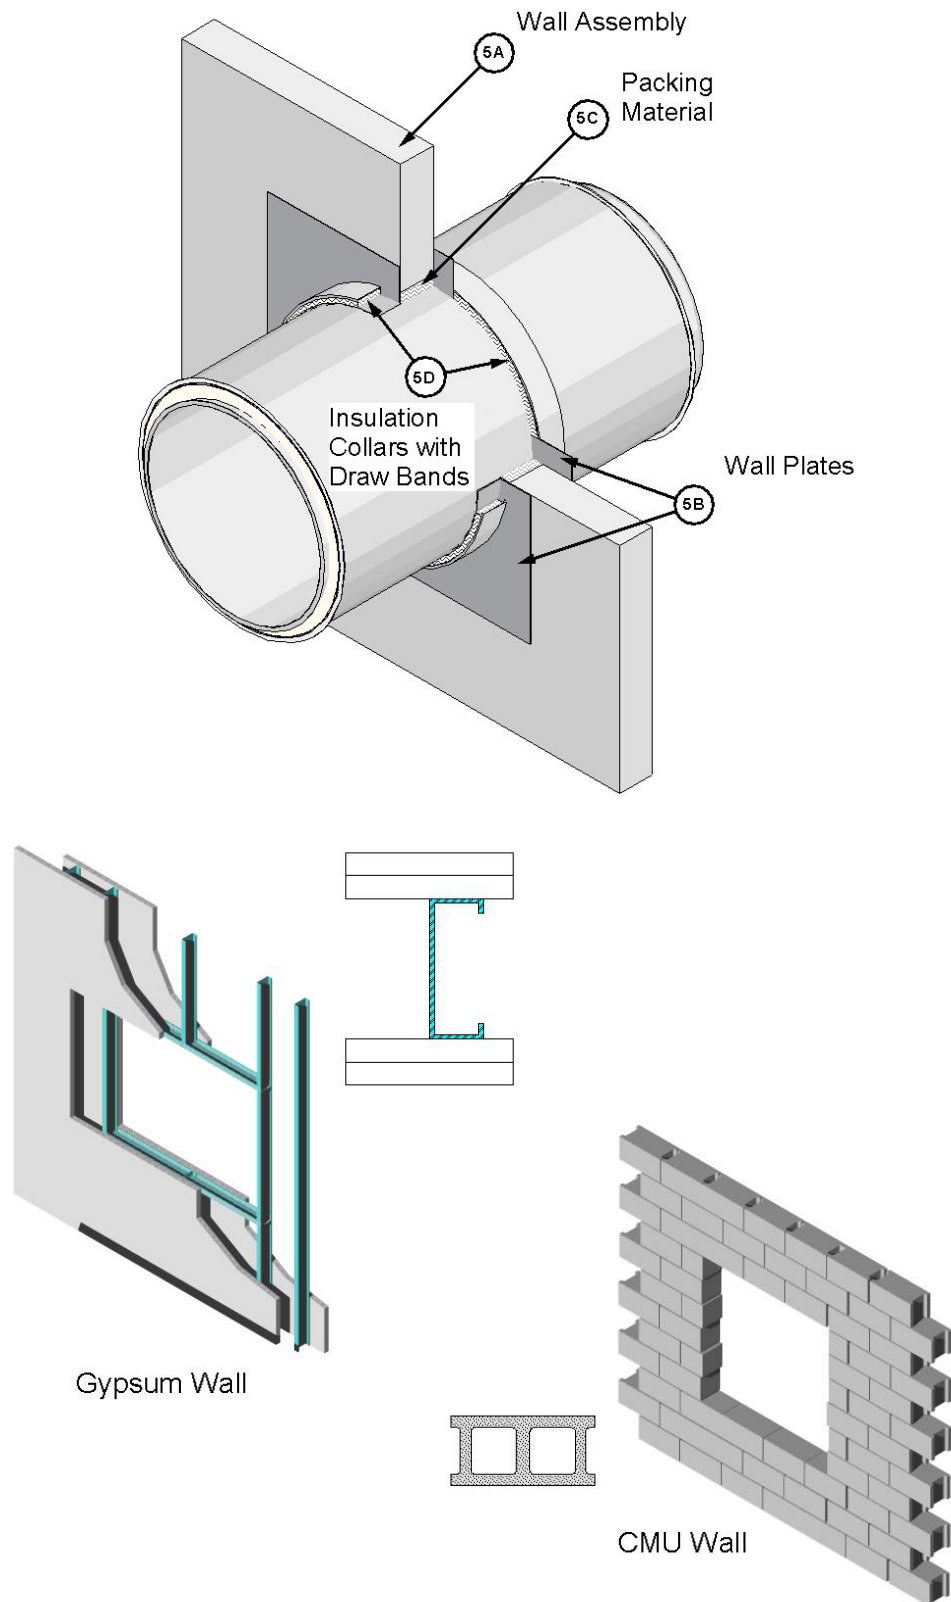

Figure 12. Wall Firestop
5. WALL PENETRATION FIRESTOP: When required to penetrate a fire-rated wall assembly, install firestop system described in Items 5A to 5D (see Figure 12).